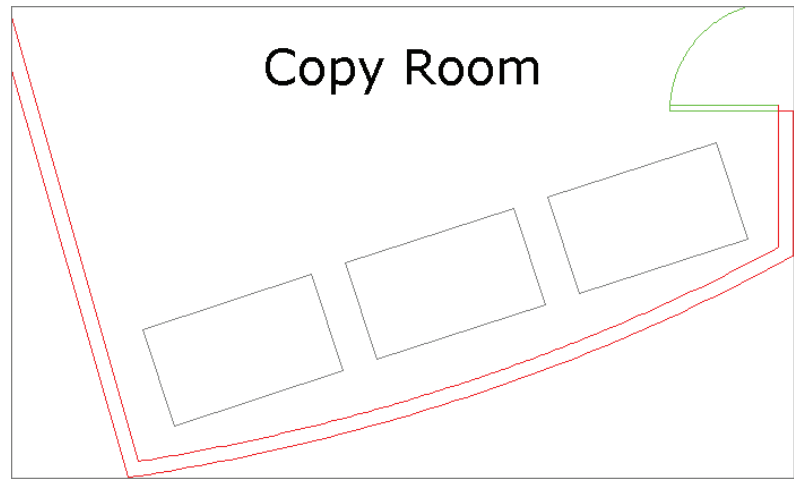

FIGURE 4.25 Offsetting and filleting walls
4. Type **F** (for **Fillet**), press **Enter**, and click the new elliptical arc and the inner line of the adjacent vertical wall on the right. Press the spacebar to repeat the **FILLET** command, and click the elliptical arc and inner line of the adjacent vertical wall on the left. The intersections between the wall objects are cleaned up (see Figure 4.25).